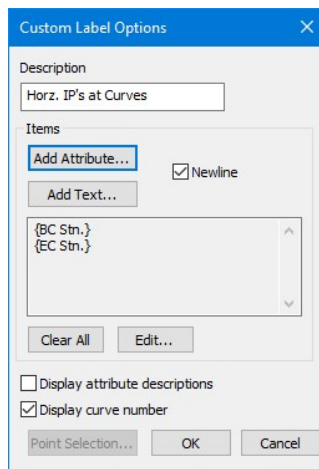

Figure 21-5: Displaying Horizontal IP's Labels at Curves
12. Click on the *Add Attribute* button and then add **BC Station** and **EC Station** as shown below in Figure 21-5.